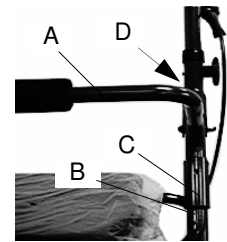

fig. 1
- 2) Fit cross bar (fig. 1-A) into front sockets on the frame (fig. 1-B) and push fully down.
To secure the cross bar make sure the retaining spring buttons (fig. 1-C) have located through the hole in both sockets.
Remove the hand knob and bolt (fig. 1-D). Pull the handle to new setting (there are five fixed settings at 25 mm intervals), re-fit and tighten the knob and bolt ensuring that the head of the bolt is inside the hexagonal hole.